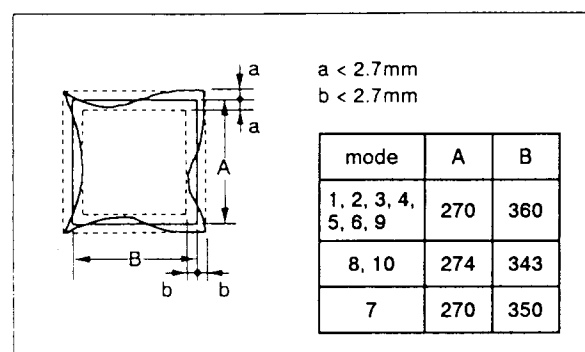

Fig. 6-3-15 Image Size and Distortion Standards
- 1) Image size and image distortion must meet with the conditions specified in Fig. 6-3-15.